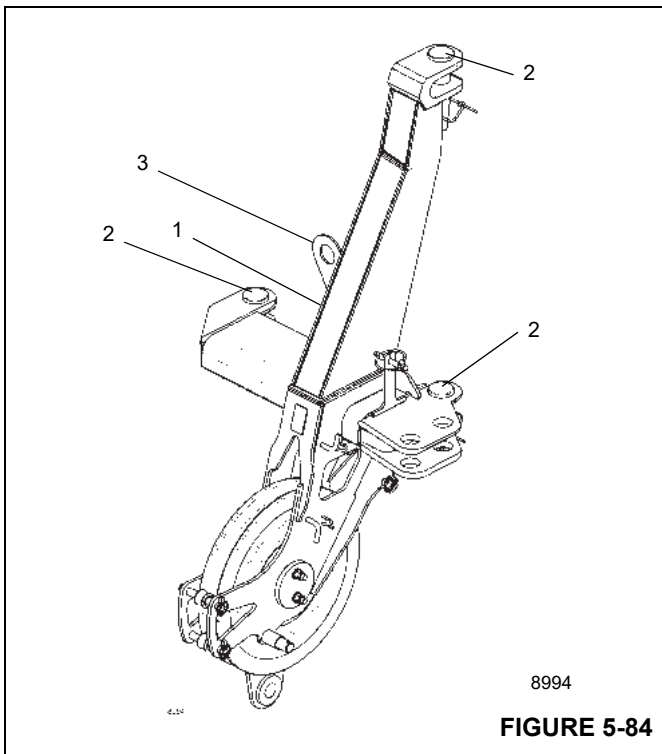
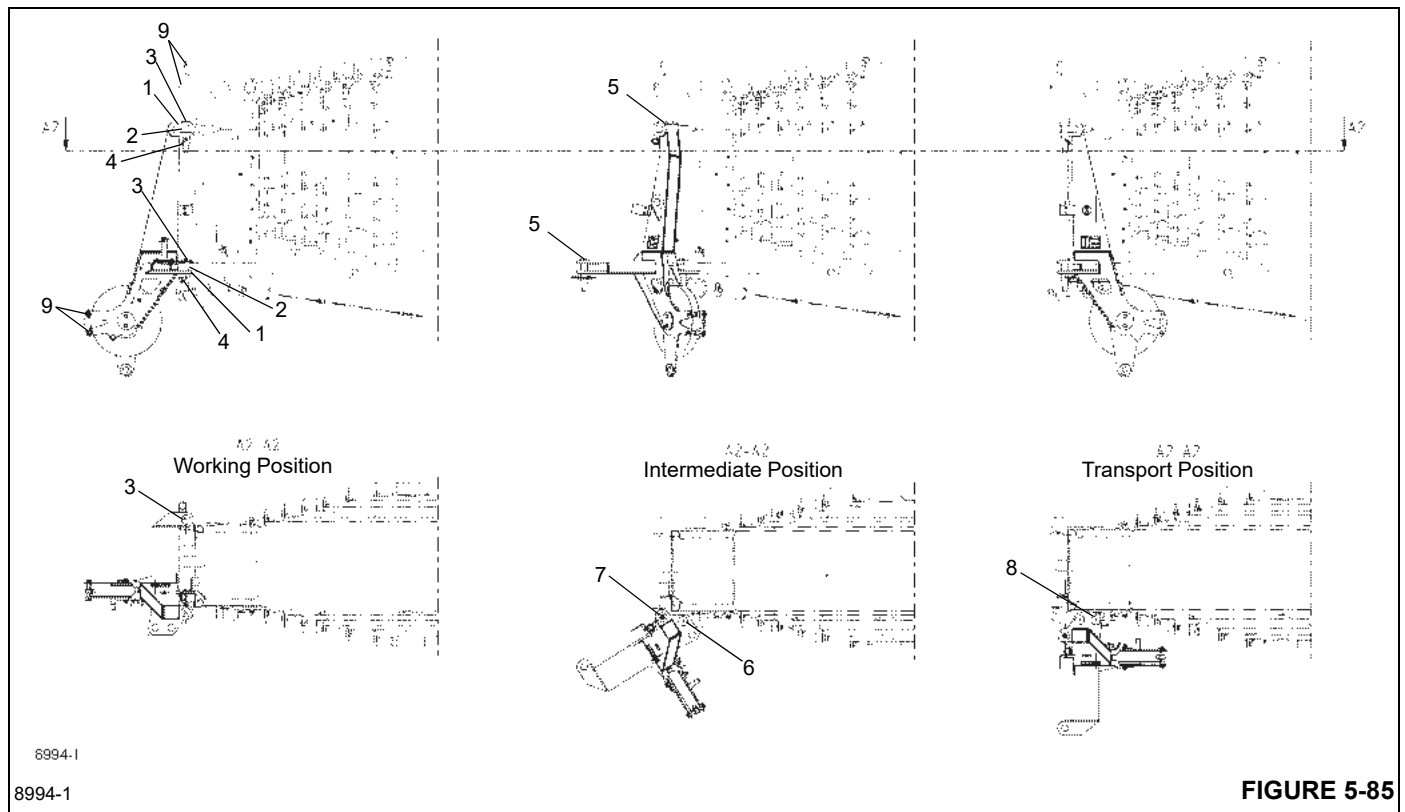

FIGURE 5-84
FIGURE 5-85
The serial number (1) is on a plate, on the right side on the auxiliary single-sheave boom nose (Figure 5-84).
1. Remove the retaining clips from the pins (2) and remove the pins from the attachment lugs (Figure 5-84).
2. Use an auxiliary crane attached to the lifting eye (3) on the auxiliary boom nose and lift it to the front of the main boom head.
3. Align the auxiliary single-sheave boom nose so that the attachment lugs (1, Figure 5-85) line up to the boom nose attachment lugs (2).
4. Secure the auxiliary single-sheave boom nose to the main boom nose using pins (3).
5. Secure the pins (3) with retaining clips (4).
In the working position, the auxiliary single-sheave boom nose is positioned in front of the main boom head and is fastened with three pins (3, Figure 5-85).
1. Remove the retaining clips and take pins (5) out of the lugs at the front of the main boom head (Figure 5-85).
3. Insert pin (6) into lugs and secure with retaining clip.
4. Remove the retaining clip from the pin (7) and remove the pin.
5. Rotate the auxiliary boom nose further to the side of the main boom nose. Insert pin (8) into the lugs and secure with the retaining clip.
1. Remove the cable holding rods from the head of the main boom and from the auxiliary single-sheave boom nose (9, Figure 5-85).